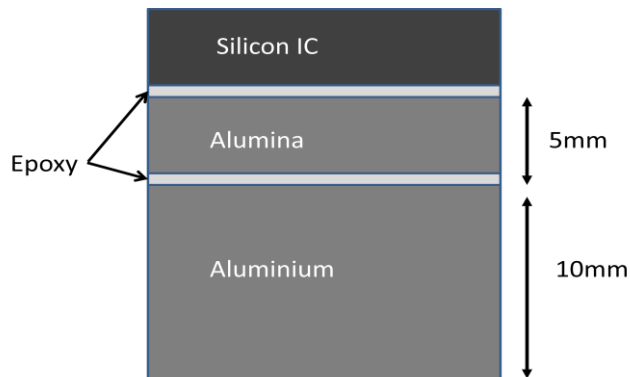

Figure 1: Heatsink arrangement for the silicon processor ICs
- c. Both processor ICs from table 2 are glued with epoxy to a 5 mm -thick alumina substrate, which in turn is epoxy glued to a 10 mm -thick aluminium heat sink, as shown in Figure 1. Assume that each layer of epoxy is $100\mu\text{m}$ thick, with a